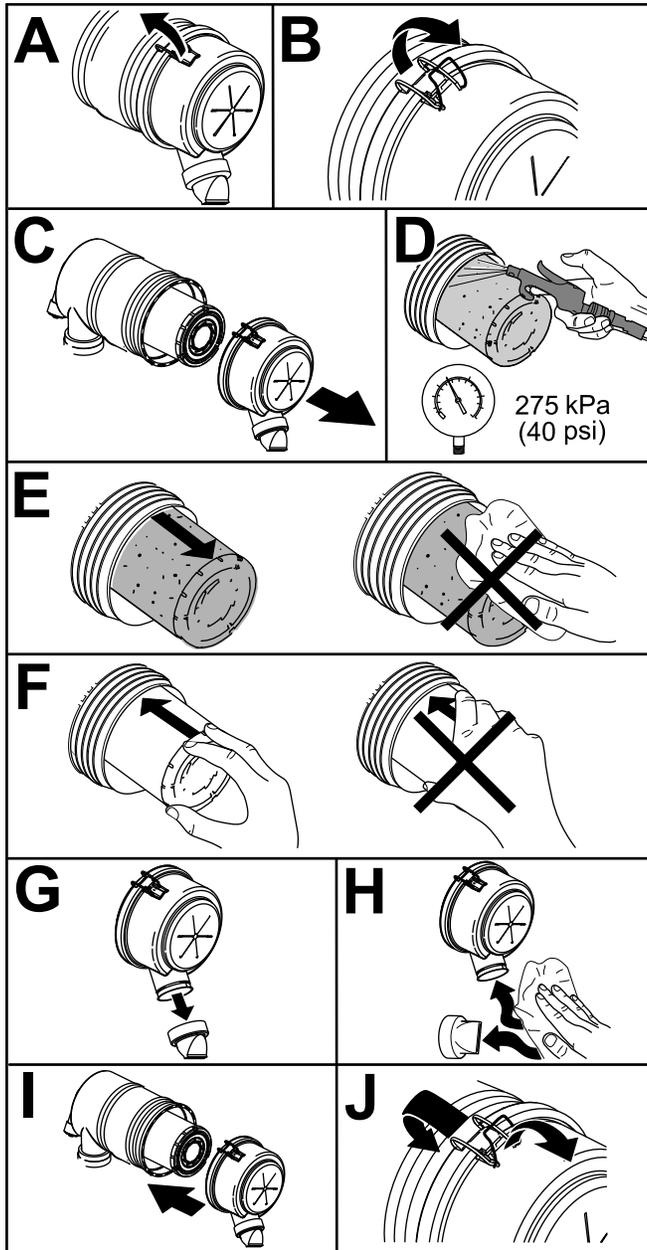

Figure 46
1. Replace the primary air-cleaner element (Figure 46).